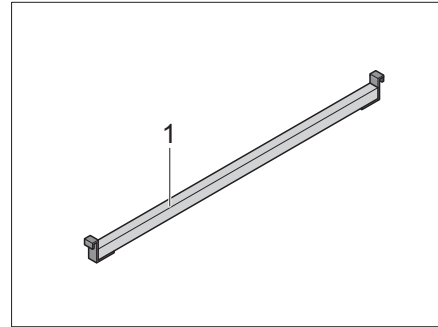
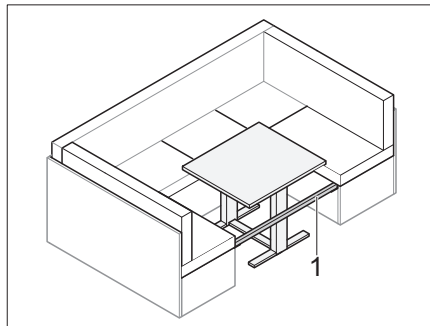

Fig. 68 Additional rail
Fig. 69 Inserted strip
- Insert additional strip (Fig. 68,1) between the benches (Fig. 69).